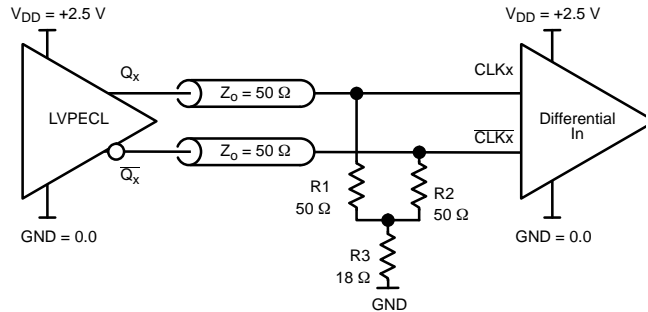
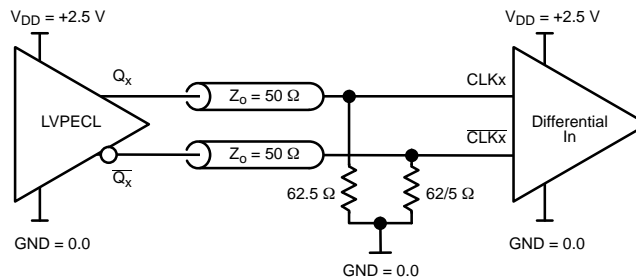

Figure 32. CLK / CLK Input Driven by 2.5 V LVPECL Driver ("Y" Parallel Termination)
Figure 33. CLK / CLK Input Driven by 2.5 V LVPECL Driver (Modified "Y" Parallel Termination)
- 2 V is very close to ground level. The R3 in Figure 32 can be eliminated and the termination is shown in Figure 33. Consult AND8020 for further termination information